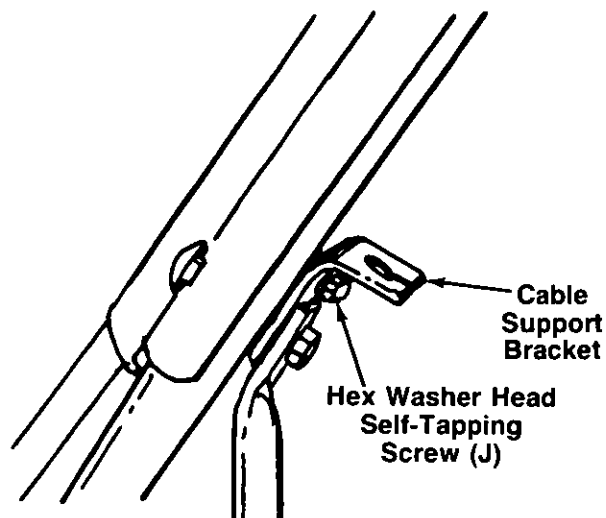

FIGURE 12.
14. If not already assembled, secure cable support bracket using hex washer head self-tapping screw (J). See figure 12.